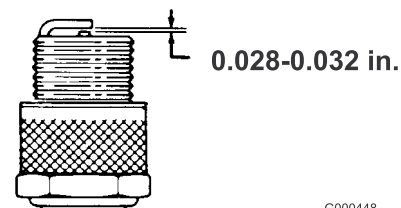

Figure 25
3. Set air gap at 0.028-0.032 inch (Figure 25). Install correctly gapped spark plug and tighten firmly to 17 ft.-lb (23 N-m).